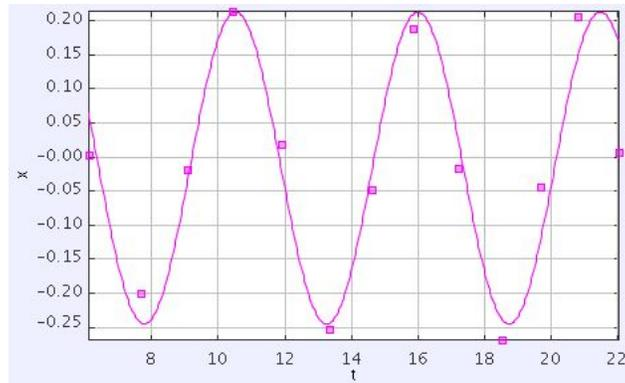

Figure 9: The best-fit curve for the precessional motion of the disk.
11. Right-click the graph of x vs. t for mass B and select **Analyze**. Create a sinusoidal function of the form $x = a * \sin(b * t + c) + d$ and adjust the curve fit parameters manually until you get a decent curve fit. Then, select the checkbox for Autofit. It helps to turn off the "connect the dots" feature by clicking on the line style icon in the datatable. The resulting curve fit may look something like Figure 9.